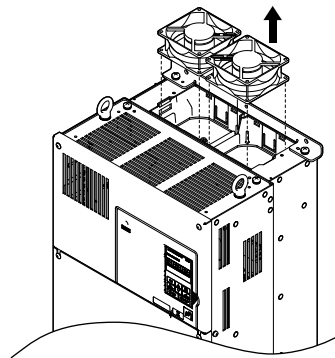

Figure 7.16 Remove the Cooling Fan: 4A0088 and 4A0103
2. Lift up directly on the cooling fan as shown in Figure 7.16. Unplug the relay connector and release the fan from the drive.